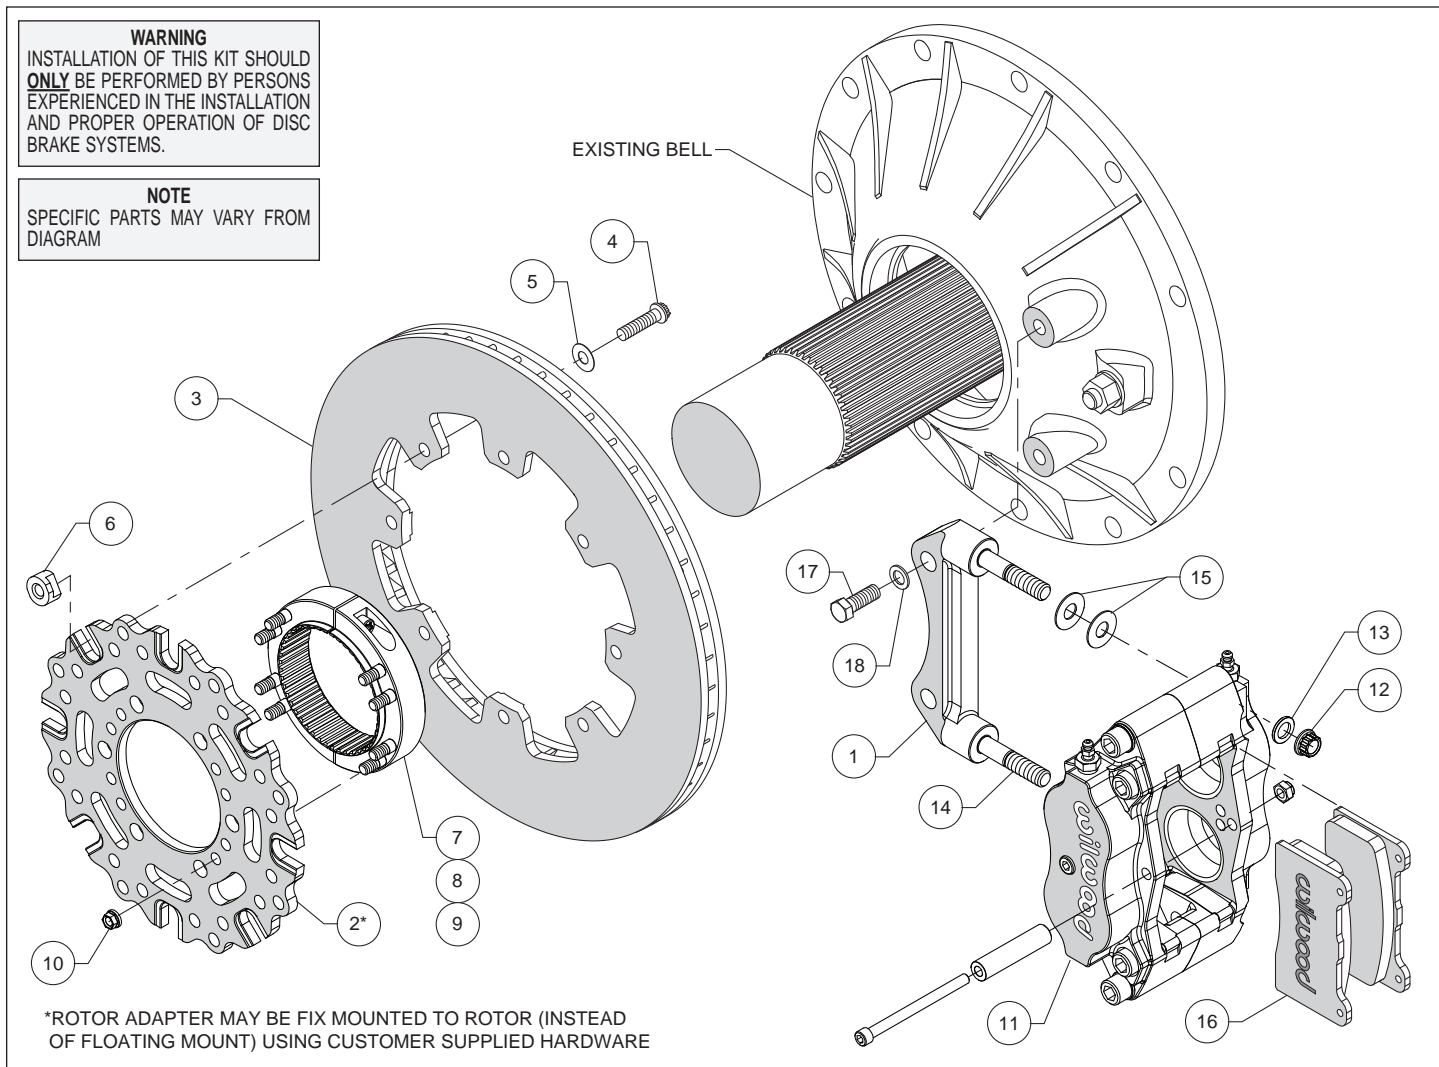

Figure 1. Typical Installation Configuration
• Orient the caliper mount bracket (1) as shown in Figure 1 and install using bolts (17) and washers (18). Temporarily tighten the mounting bolts. **NOTE:** The bracket must fit squarely against the mount bosses on the bell. Inspect for interference from casting irregularities, machining ridges, burrs, etc. Remove the bracket mounting bolts one at a time, apply red *Loctite*® 271 to the threads, and torque to 60 ft-lb.
• Orient the rotor adapter (2) and the rotor (3), as shown in Figure 1, and attach using bolts (4), washers (5) and t-nuts (6), Figure 1. Apply red *Loctite*® 271 to the bolt threads before installing. Finger tighten. After all t-nuts have been installed, torque bolts in an alternating sequence to 220 **in-lbs**. Please refer to Wilwood's data sheet DS-669 (available at [www.wilwood.com/Pdf/DataSheets/ds669.pdf](http://www.wilwood.com/Pdf/DataSheets/ds669.pdf)) for complete t-nut bolt kit installation instructions. **NOTE:** Rotor adapter may be fix mounted to rotor (instead of floating mount) using customer supplied hardware.
- Orient the axle clamp assembly (7, 8 and 9, pre-assembled) as shown in Figure 1 and install onto the rotor adapter (2) using nuts (10). Tighten nuts part way while still allowing clamp-to-rotor movement. The nuts will be torqued later, after aligning the rotor. **NOTE:** *The axle clamp should be positioned inside of the rotor as shown in Figure 1, not offset, or outside of the rotor adapter.*
- Lubricate the caliper mounting studs (14) with lightweight oil. Initially place two .035" thick shims (15) on each stud as shown in Figure 1. Mount the caliper (11) onto the bracket (1) using lock nuts (12) and washers (13), Figure 1. Temporarily tighten the lock nuts and view the rotor through the top opening of the caliper. The rotor should be centered in the caliper. If not, slide the rotor/adapter assembly on the axle until the rotor is centered in the caliper. Tighten the clamp bolts (9) first, locking the clamp to the axle. Torque nuts (10) to 140 **in-lbs**.
- Remove the caliper center bridge pad retainer bolt, nut, and tube from the caliper. Insert the brake pads (16) into the caliper, with the friction material facing the rotor. Check that the top of the brake pad is flush with the outside diameter of the rotor. If not, adjust by adding or subtracting shims (15) between the caliper and the bracket. After the caliper pad height is set, torque the caliper lock nuts (12) to 30 ft-lb. Secure the brake pads in place with the center bridge pad retainer tube, bolt, and locknut. The locknut should be snug without play in the bolt or tube. Be cautious not to over tighten.